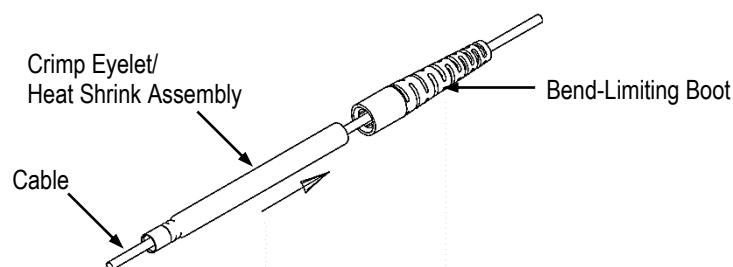

Figure 2
1. Slide the boot (small diameter end first) onto the cable. Then slide the crimp eyelet/heat shrink assembly (heat shrink end first) onto the cable. See Figure 2.